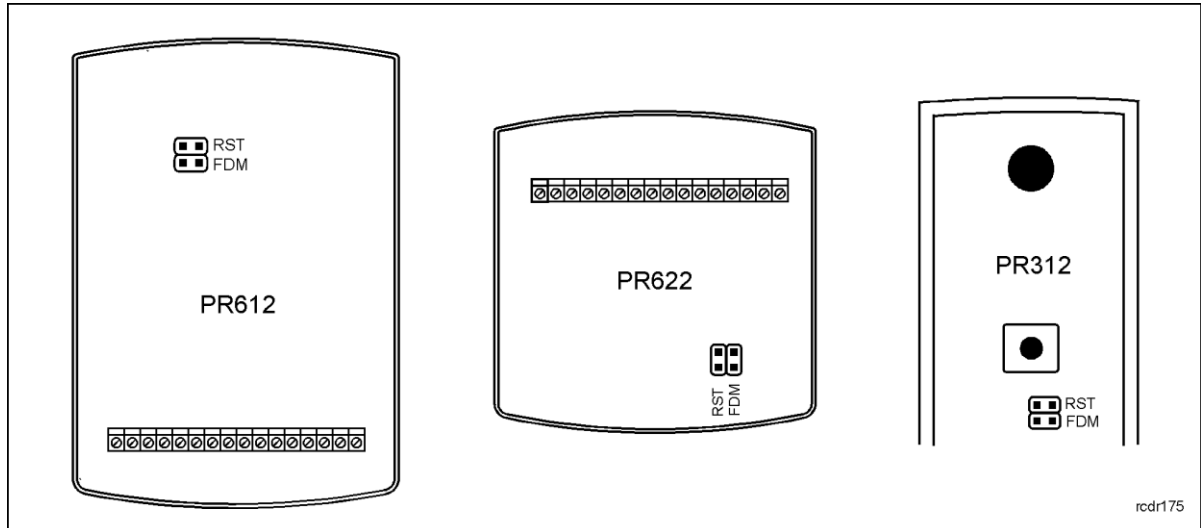

Fig. 7 Location of FDM and RST contacts inside the enclosure of controller
- Install devices in such way as to ensure easy access to screw terminals and jumpers (RST, FDM) located inside the controller – see fig. 7.
- Restart the controller (place and remove jumper on RST contacts – see fig. 7 or switch power supply off/on) – LED OPEN  (green) shall start to pulsate
- Restart the controller (place and remove jumper on RST contacts – see fig. 7 or switch power supply off/on) – the controller shall switch all LED indicators on and shall generate continuous acoustic signal
- Place jumper on FDM pins (see fig. 7)